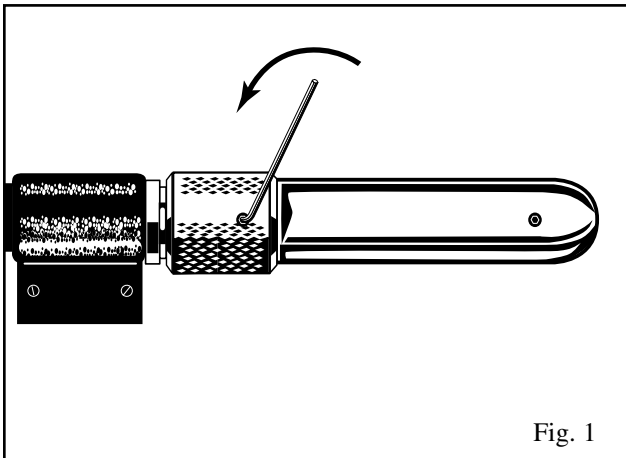

Fig. 1
1. Loosen aft set screw on rear of anvil assembly (Fig. 1).